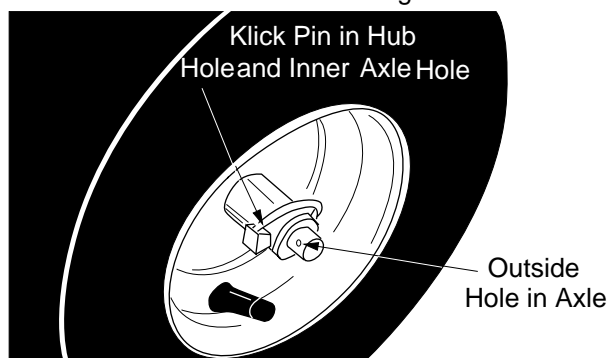

Figure 19
The wheels may be adjusted for two different methods of operation. The adjustment is made by placing the click pins in one of two different holes on the right side of the unit. See Figure 19.
2. Both Wheels Driving—Rotate wheel assembly to align hole in hub with inner hole on axle shaft. Insert click pin in hole. Outer axle shaft hole should be visible. See Figure 19.